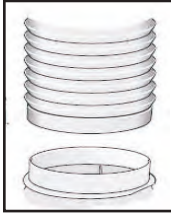

Fig. 6
### Connection to exhaust air pipe (Fig. 6)
- Attach  $\varnothing 150\text{mm}$  pipe directly to the air outlet and secure appropriately (Fig. 6).